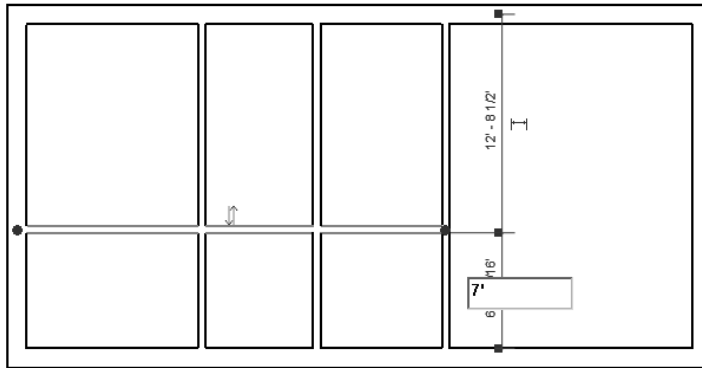

Figure 3-61 Entering the value to adjust the dimension of the horizontal interior wall
6. Click on the temporary dimension from the lower external wall and enter the value **7'0"**, as shown in Figure 3-61 and press ENTER. The interior wall is moved to the desired location. Now, press ESC to exit the **Modify Walls** tab.
7. This completes the interior wall layout for the *Apartment 1* project. The model will look similar to that shown in Figure 3-61.